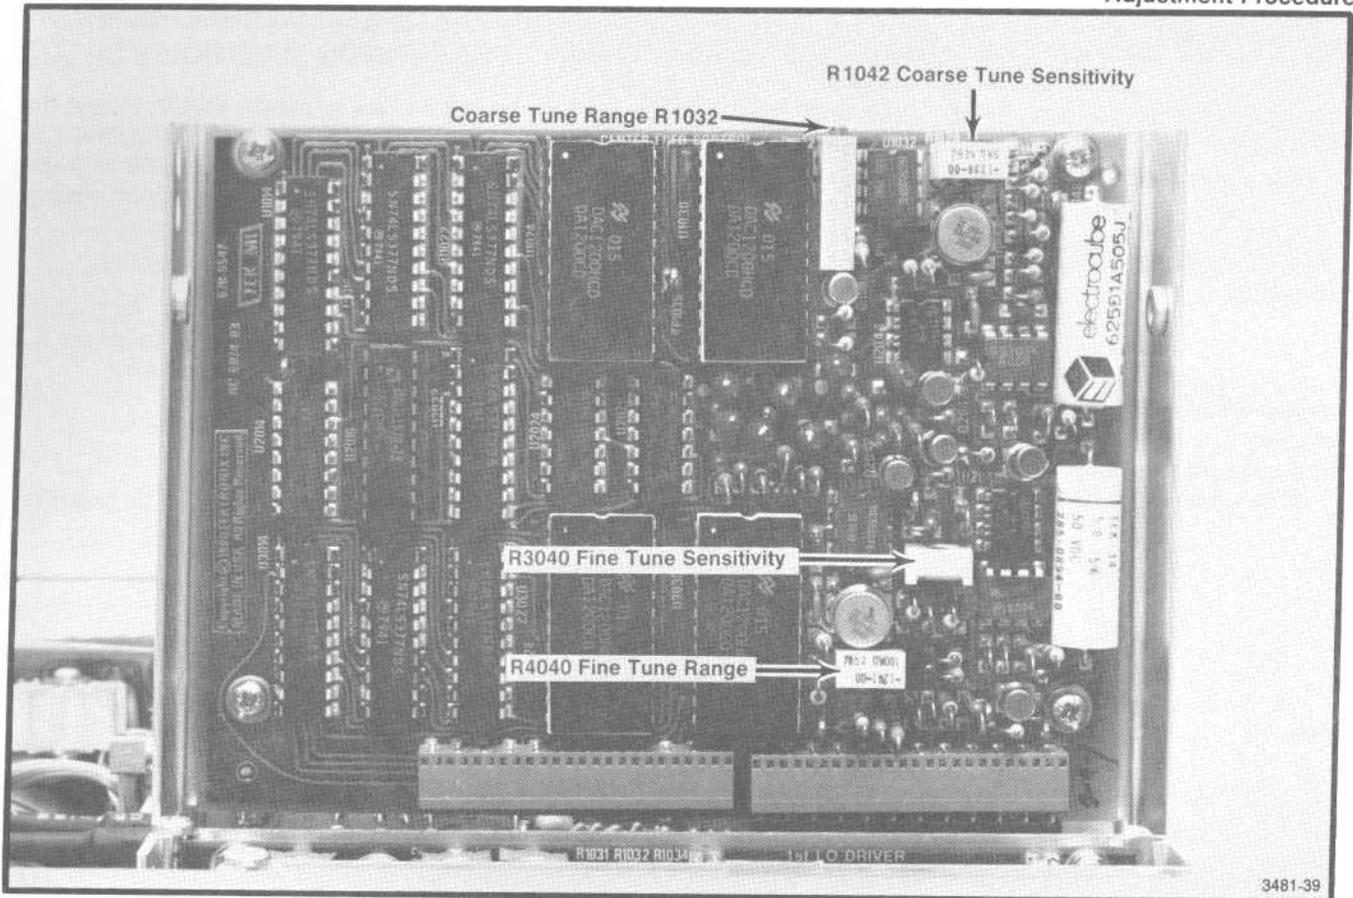

Fig. 3-33. Center Frequency Control adjustment locations.
f. Adjust Fine Tune Range, R4040, on the Center Frequency board (Fig. 3-33), to correct for one half the error, and repeat the steps until the range is correct.